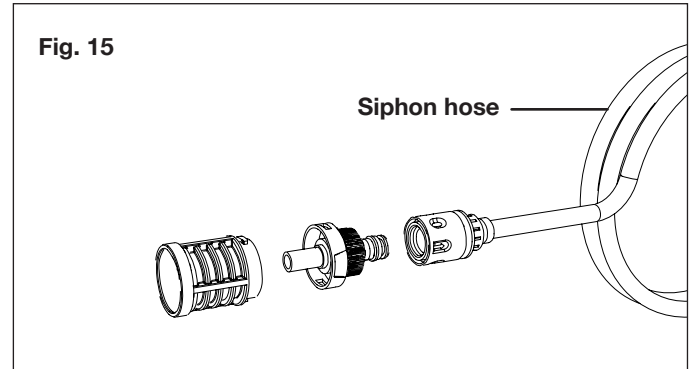

Fig. 15
1. To ensure good performance, check and clean the water inlet filter on the end of the siphon hose. Remove and disassemble the filter and rinse all components with warm water to prevent any foreign matter from clogging the pump (Figs. 15 – 16).